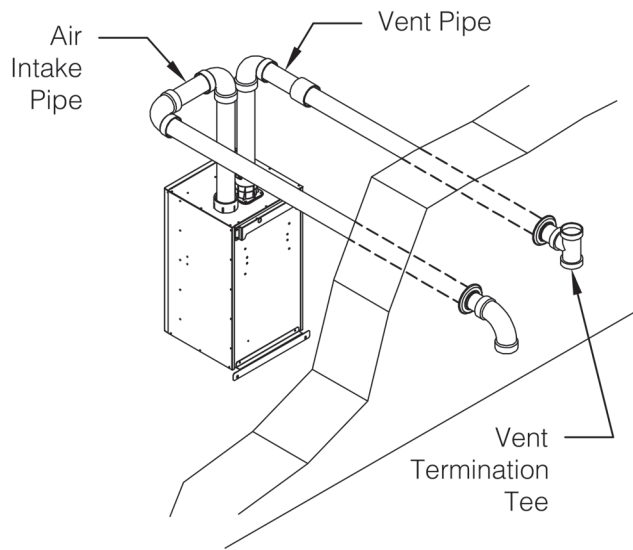

Figure 3
- i. **If *Lightoff Heat Rate* fan speed is set below 3500 RPM a Tee MUST be installed on the exhaust side vent termination (see Figure 3). Attach per manufacturer’s installation and cementing/locking instructions.**